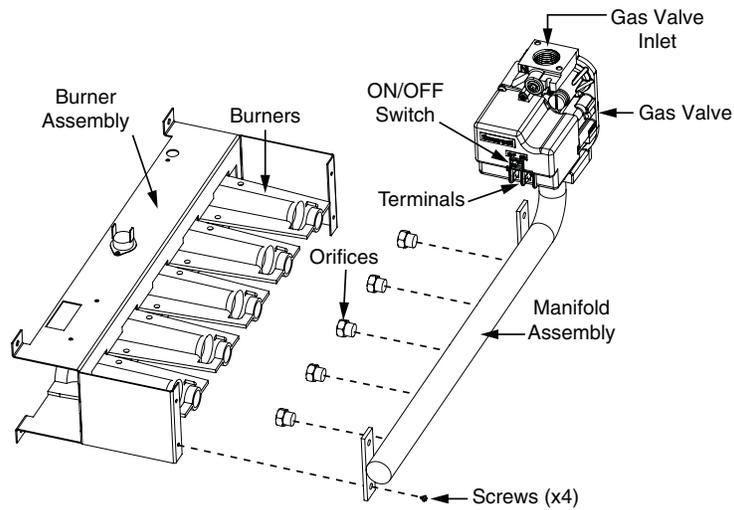

Figure 1. Burner & Manifold Assembly
5. Move the gas valve ON/OFF switch to the OFF position as shown in Figure 1. For VR8205Q2381 gas valves, turn the knob to the OFF position.